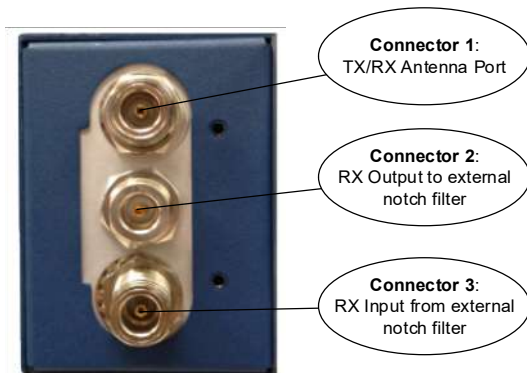
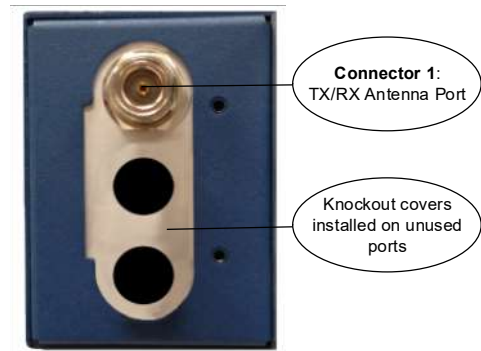
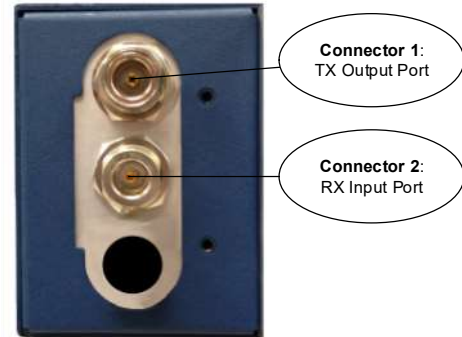

Figure 4: Internal Duplexer, Triple N connectors
Figure 5: Internal Duplexer (or internal T/R switch), Single N connector
Figure 6: External duplexer or dual antennas (TX and RX ports pass directly through)
- Connect Antenna Feed-lines.** All coaxial antenna connections are made to the Type-N connectors on the rear of the unit. Figure 4, Figure 5, and Figure 6 illustrate the antenna options available;